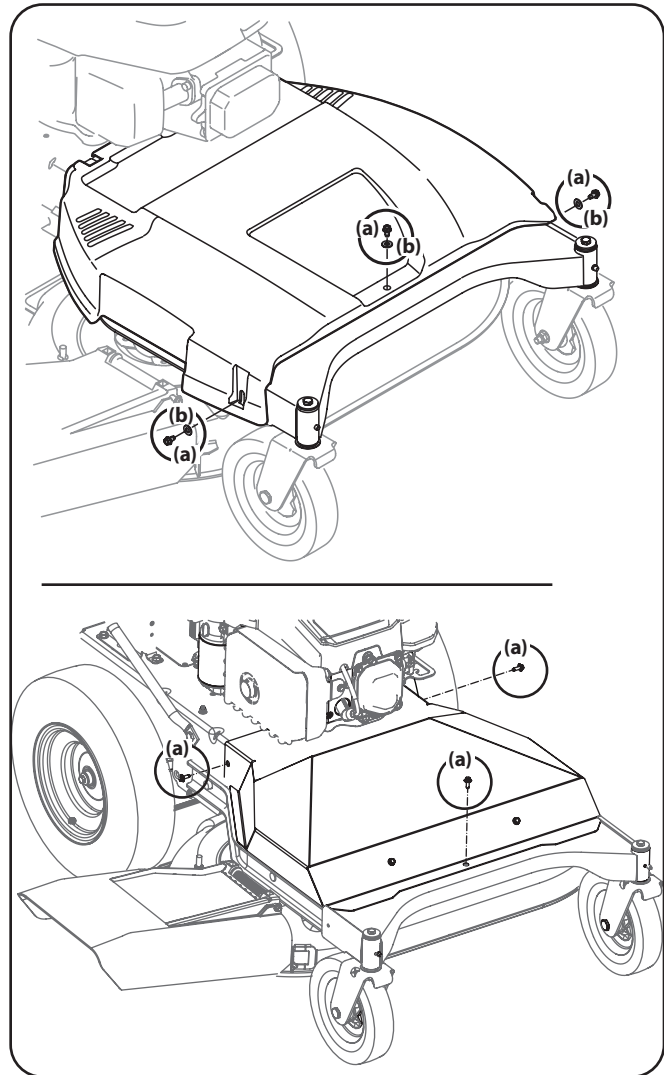

Figure 6-3
1. Remove the belt cover by removing the three screws (a) and washers (b) (if equipped) which secure it to the frame. See Figure 6-3 for hardware location according to belt cover shape.